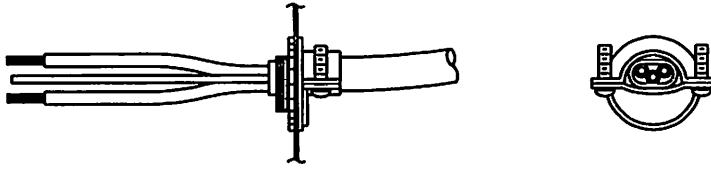

FIGURE 9
- N. Tighten the strain relief clamp to secure the supply wire. **DO NOT OVERTIGHTEN** (See Figure 9). Reinstall the selector switch control box cover. Some ceiling assemblies may be equipped with a plastic strain relief.